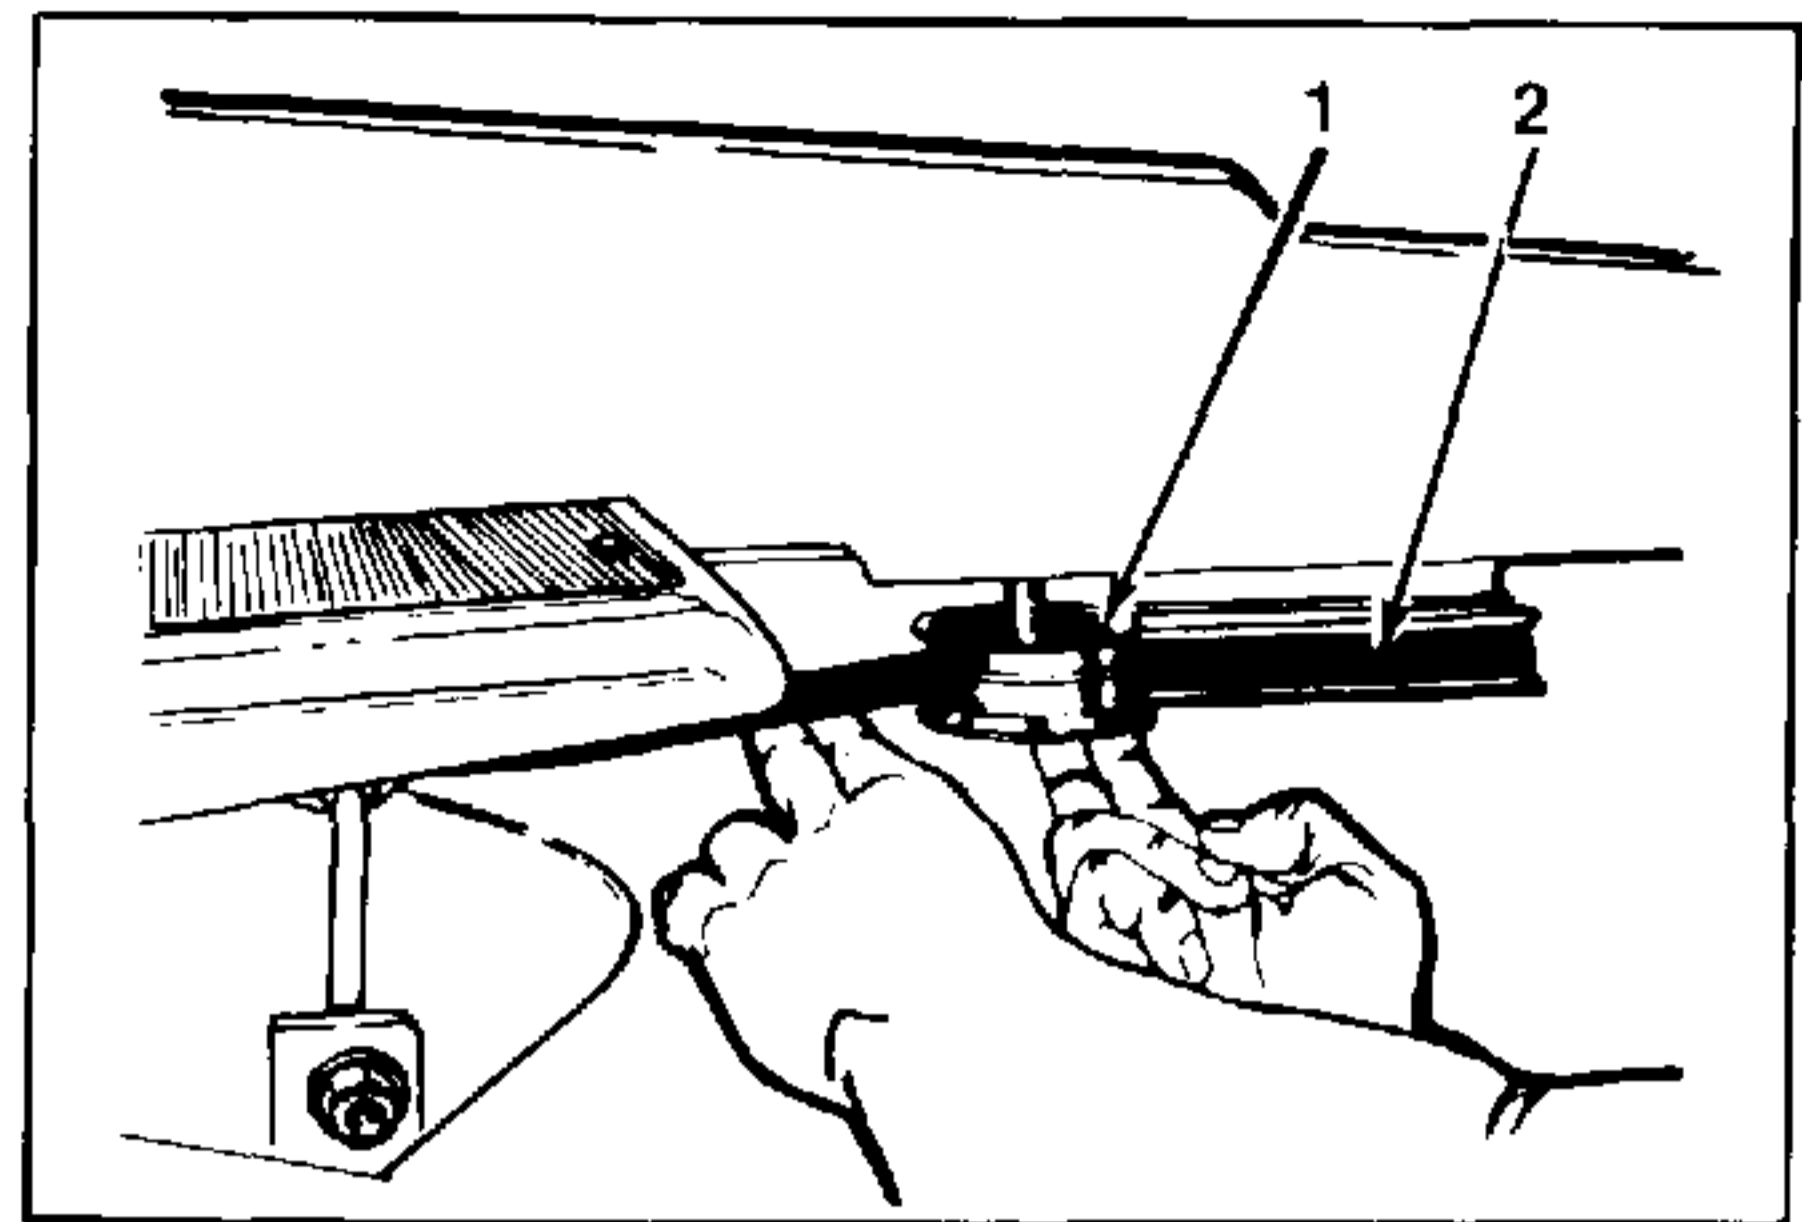

FIGURE 16.
14. Pull idler pulley away from the tractor and then place drive belt behind it. Release idler pulley. Refer to figure 16.